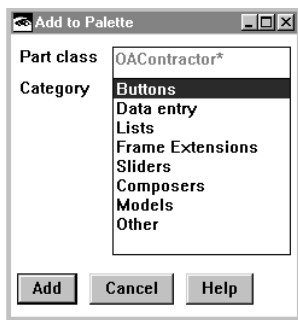

Figure 120. The Add to Palette Window
2. Select **File→Add to palette**. Visual Builder displays the Add to Palette window, as shown in Figure 120.